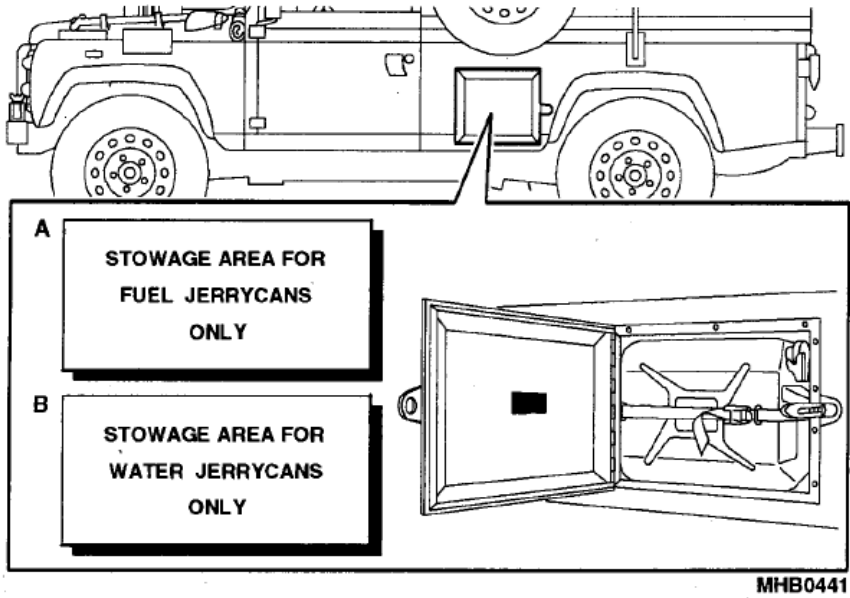

Fig 6 Jerry can labels
- 14 The labels are located on the inside of the respective compartment doors (Fig 6).